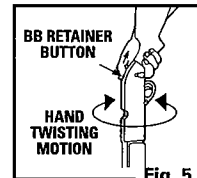
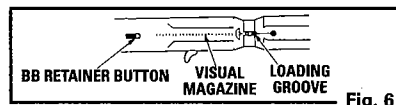

Fig. 5
Fig. 6
- Pull the BB retainer button back. (Fig. 5)
- With a hand twisting motion, shake and twist the air rifle (Fig. 5) to fill the visual magazine. (Fig. 6)
- Push the BB retainer button forward to keep the BBs in the magazine. (Fig. 6)
- With the barrel tilted downward, cock the bolt by pulling it all the way back and then pushing it all the way forward. The magnetic bolt will pick up a BB. (As you push the bolt forward, you can see the BB move through the loading groove.) (Fig. 6) The BB is now in position to be fired out of the barrel.